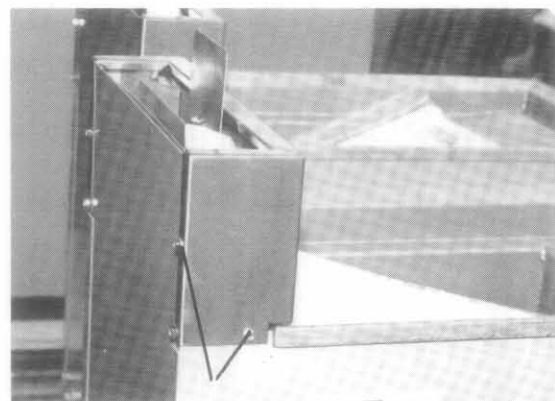

Fig. 16
- Remove the screws from the sides and back of the flue cap and remove the flue cap. See Figure 16.